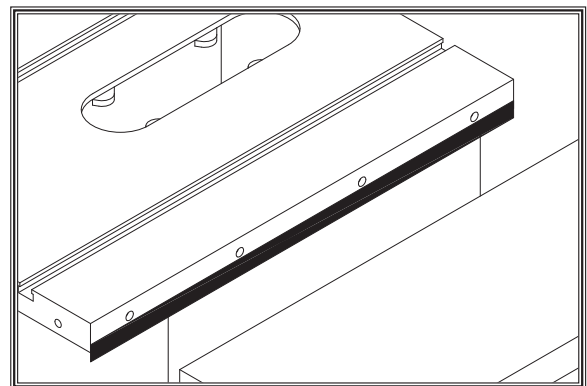

Figure 16. Masking tape location for tilting the extension wing up.
- If the outside end of the extension wing tilts down, use a strip of masking tape along the bottom edge of the main table to shim the extension wing up (**Figure 16**).